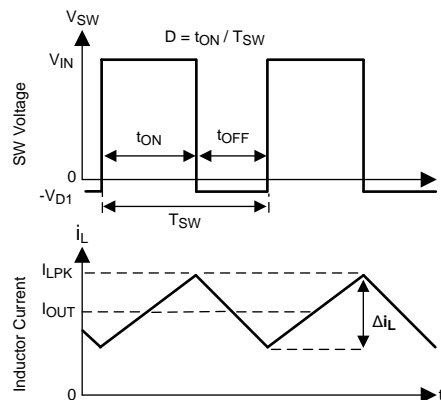

Figure 35. SW Node and Inductor Current Waveforms in Continuous Conduction Mode (CCM)
The following operating description of the LM43603 will refer to the Functional Block Diagram and to the waveforms in Figure 35. The LM43603 is a step-down Buck regulator with both high-side (HS) switch and low-side (LS) switch (synchronous rectifier) integrated. The LM43603 supplies a regulated output voltage by turning on the HS and LS NMOS switches with controlled ON time. During the HS switch ON time, the SW pin voltage V_{SW} swings up to approximately V_{IN} , and the inductor current i_L increases with a linear slope $(V_{IN} - V_{OUT}) / L$. When the HS switch is turned off by the control logic, the LS switch is turned on after a anti-shoot-through dead time. Inductor current discharges through the LS switch with a slope of $-V_{OUT} / L$. The control parameter of Buck converters are defined as Duty Cycle $D = t_{ON} / T_{SW}$, where t_{ON} is the HS switch ON time and T_{SW} is the switching period. The regulator control loop maintains a constant output voltage by adjusting the duty cycle D . In an ideal Buck converter, where losses are ignored, D is proportional to the output voltage and inversely proportional to the input voltage: $D = V_{OUT} / V_{IN}$.